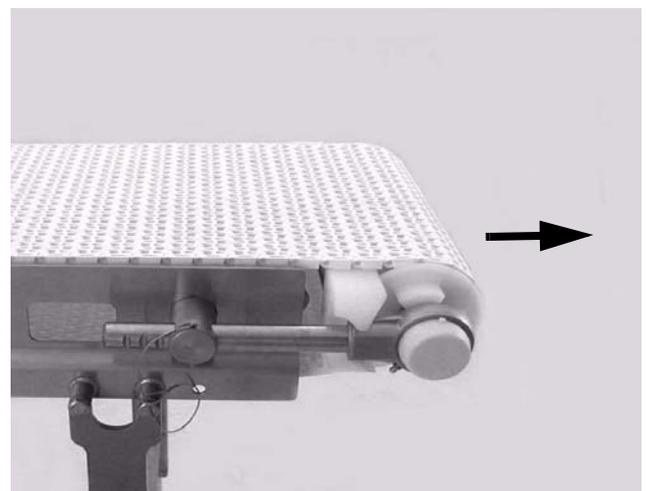
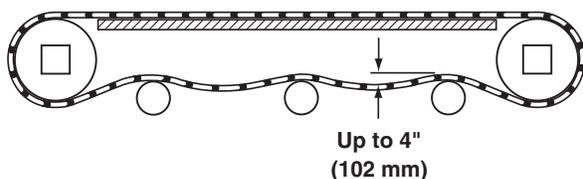

Figure 27
Figure 32
7. Extend the tension end to remove excess slack in the belt (Figure 27). Reference figure 32.
4. Check belt sag by measuring from the top of the return (**Figure 32**). Belt sag should not exceed 4" (102 mm). Follow steps 7 – 9 in the “Belt Installation” section on page 11 to remove slack from the belt.